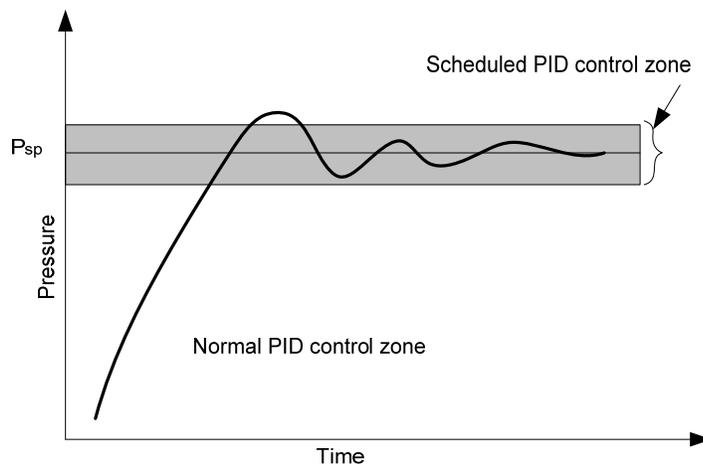

Figure 6-16 Schematic of a Scheduled PID Control
- **GainSchedBand:** This is the band for gain scheduling PID control, that is, allows different proportional gain K_p at different error band during pressure control. This is often used for maintaining stable control around the set point (within the scheduled PID control zone as shown in Figure 6-16, while ensuring the fast approach to the set point in the normal PID control zone where the control error is large (such as at the beginning of the control process)).